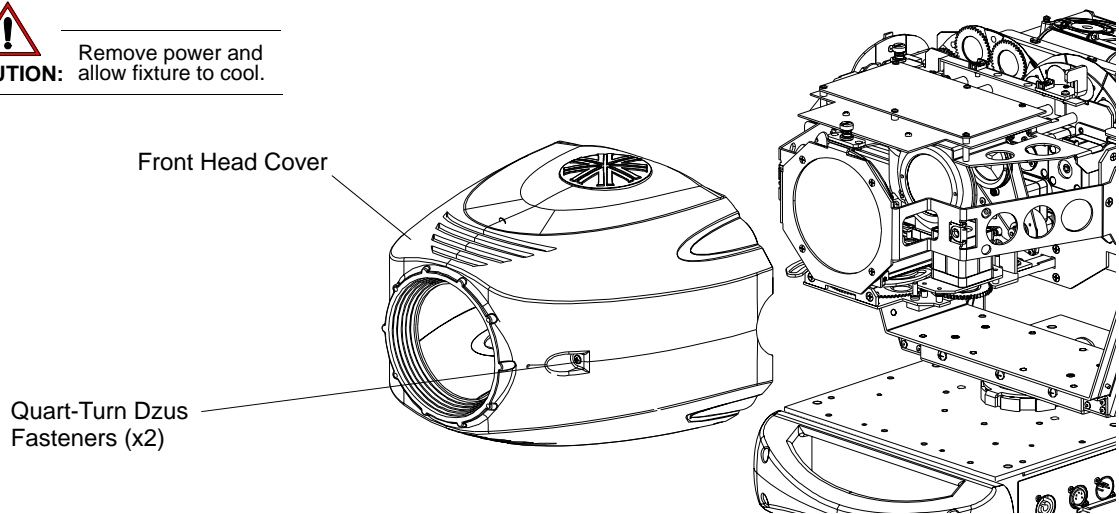

Figure 2-1: VL440 / VL770 / VL880 Front Head Cover Removal
- Step 2. As illustrated in Figure 2-1, remove front head cover by loosening two quarter-turn Dzus fasteners.
- Step 2. As illustrated in Figure 2-1, remove rear head cover by loosening two quarter-turn Dzus fasteners.